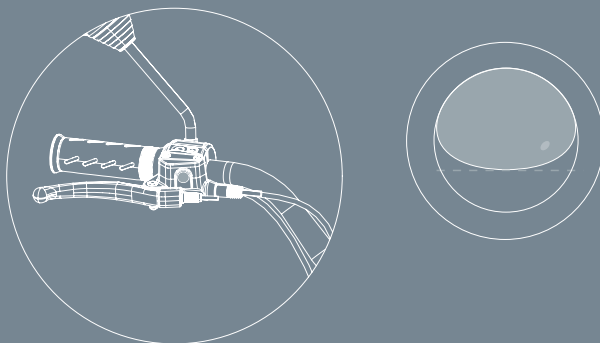

Fig. 14
Wanted state: See Fig 14. When squeezing the brakes, there should be resistance.
1. Check that the air bubble is no bigger than in Fig 14.
2. A bigger air bubble than indicated in Fig 14 means that there is a brake system leakage somewhere, see *Checking the brake hoses for damages*.